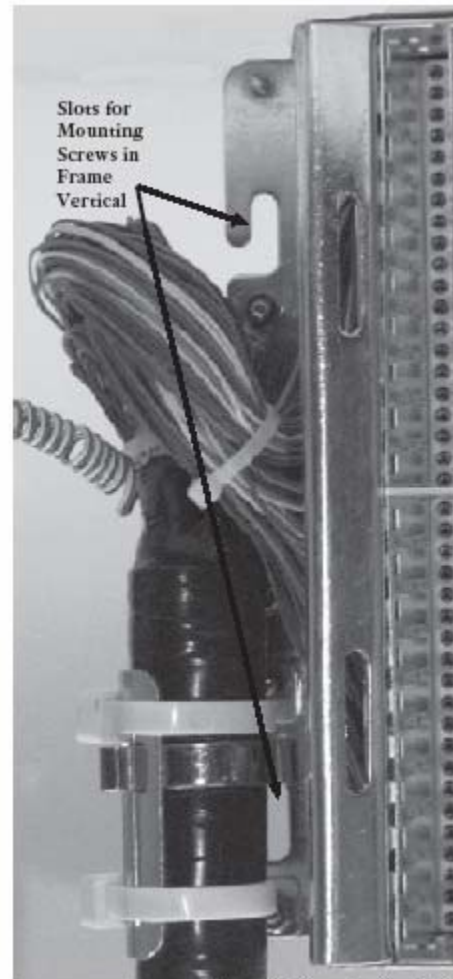

Figure 8 - Mounting Bracket Slots
8.6 Hang the MPC by its mounting bracket slots on the two screws in the frame vertical (Figures 8 and 9).
9.6 Hang the MPC by its mounting bracket slots on the two screws in the frame vertical (Figures 8 and 9).